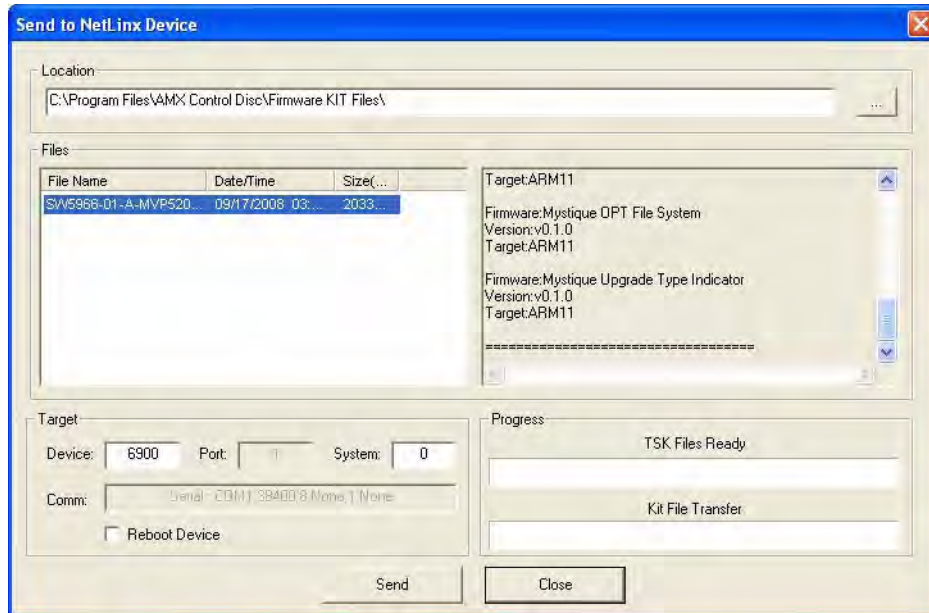

FIG. 54 Send To NetLinX Device dialog (NetLinX Studio)
- Assuming that the specified target directory contains one or more KIT files, the KIT files in the selected directory are displayed in the *Files* list box, with the file's last modified date and time (FIG. 54).